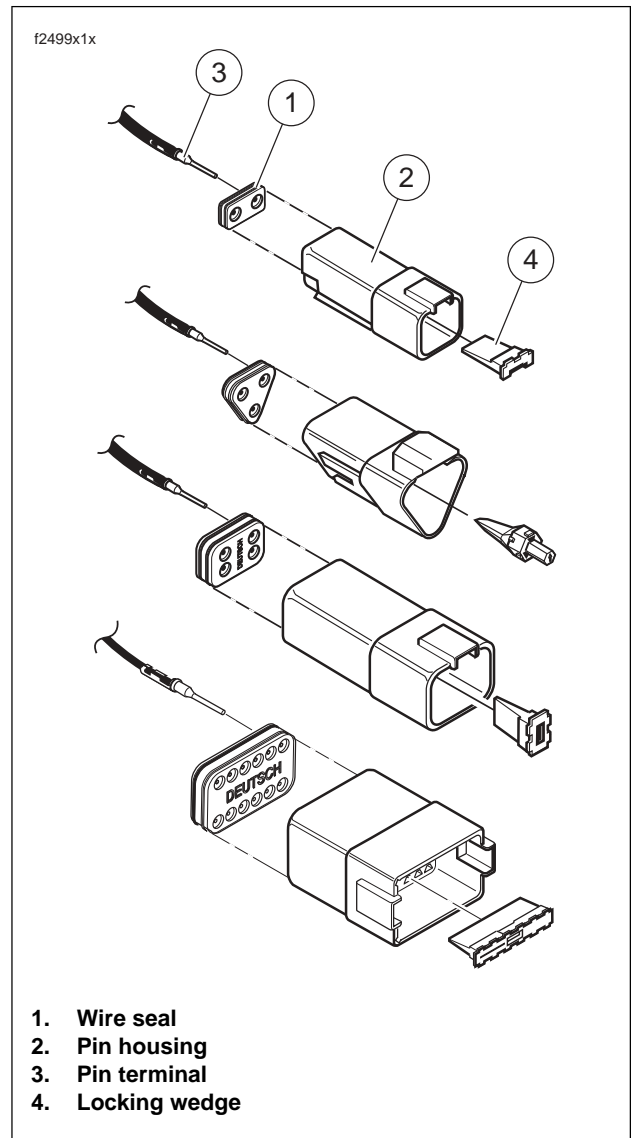

Figure B-13. 2, 3, 4 and 12 Place Pin Housings
1. See Figure B-13. Fit wire seal (1) into back of pin housing (2).
2. Grasp wire lead approximately 1 in. (25.4 mm) behind the pin terminal (3). Gently push pin through holes in wire seal into its respective numbered chamber until it “clicks” in place.